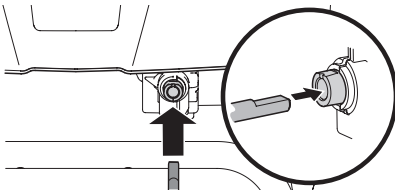

Figure 31
- Models with Electric Chute Control - Insert other end of flex shaft into chute control rod coupling under handle panel. Make sure to line up flat end of rod and flat end of coupler. You may need to rotate rod around until these two surfaces line up (Figure 31 inset).